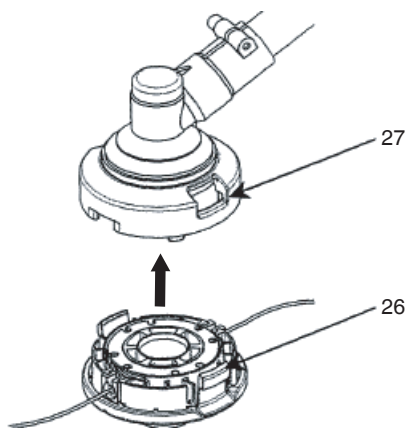

Fig. 30
- (6) Place the cover over the case so that the cap locking tabs (26) on the case meet the long holes (27) on the cover. Then push the case securely until it clicks into place. (Fig. 30)